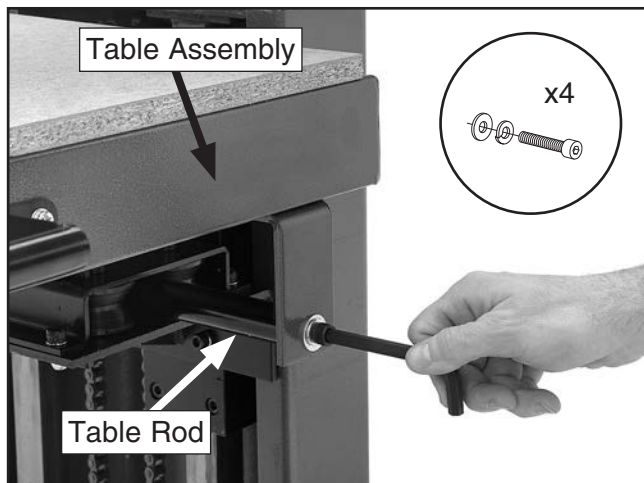

Figure 18. Attaching table.
11. Place the table assembly over the table rods, then attach it with (4) $\frac{3}{8}$ "-16 x $\frac{3}{4}$ " cap screws, (4) $\frac{3}{8}$ " lock washers and (4) $\frac{3}{8}$ " flat washers, as shown in **Figure 18**.